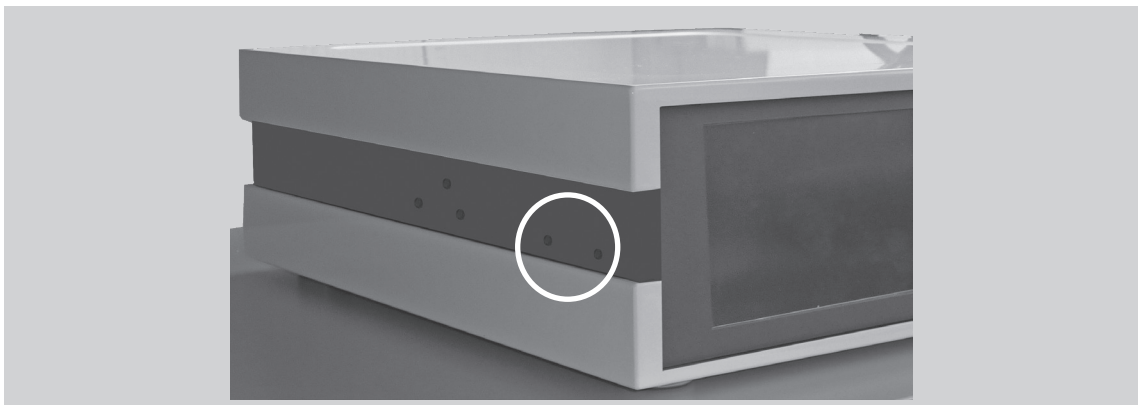

Fig.2-2 Attachment holes for the holding arm
- Screw the holder for the arm firmly onto the holes provided for it on the left of the instrument (Fig.2-2).